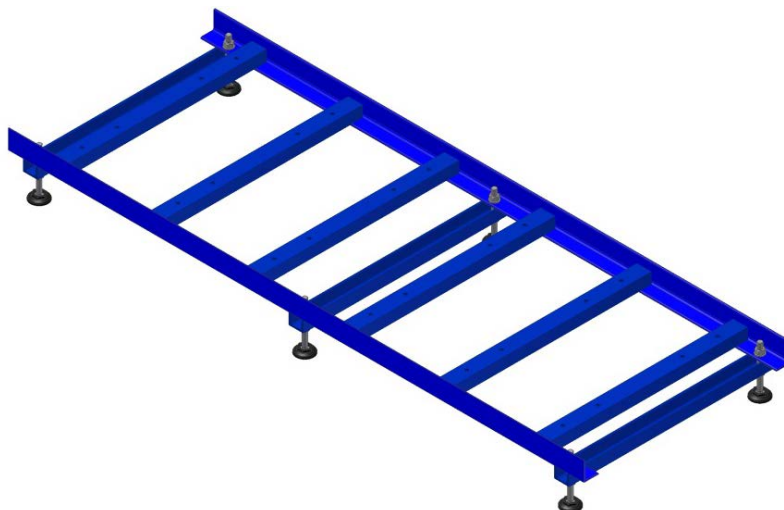

Figure 10-21: Inserting the bottom cross braces in the angle sections of the base
2. Position the bottom cross braces in the angle sections of the base (see Figure 10-21). Do not attach the cross braces to the sections!